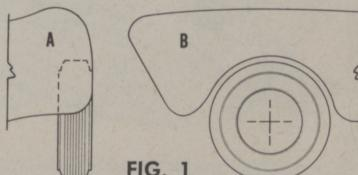

FIG. 1
**Exposed Front Wheels (Fig. 1)**—Fully exposed front wheels (B) may be placed flush with the fender edge (A).